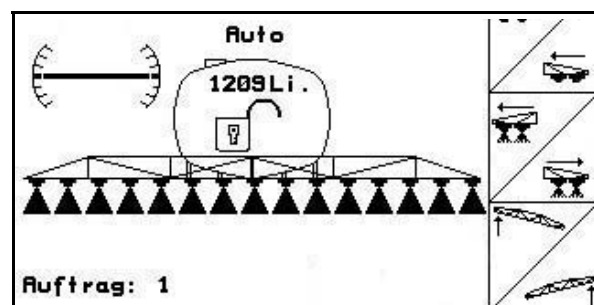

Fig. 86
- In the operation menu the symbol tilt adjustment (Fig. 86/1) shows the horizontal alignment of the sprayer booms.